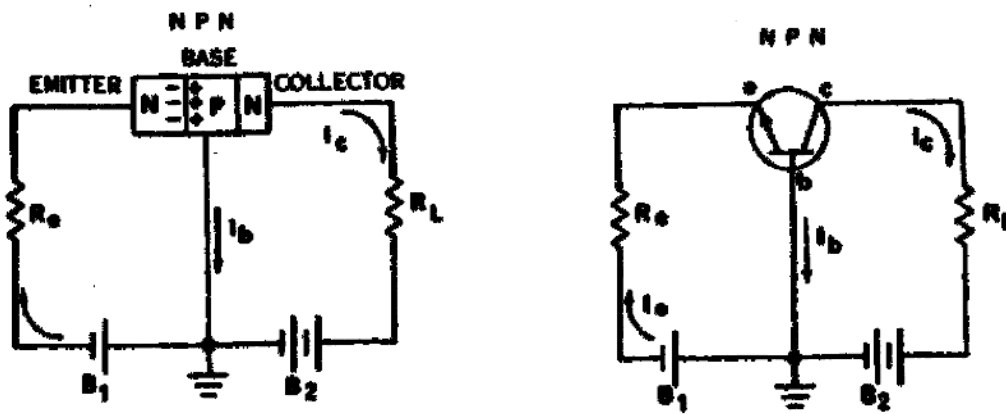

Figure 119. Common base circuit.
2. **Common Base Circuit.** Figure 119 shows a common base circuit using a triode transistor. A thin layer of P-type material is sandwiched between two pellets of N-type material. The layer of P-type material is the base when the two pellets of N-type material are the collector and the emitter. The emitter is connected to the base through a small battery ( $B_1$ ). This battery is connected with its negative electrode to the N-type emitter and its positive electrode to the P-type base. Thus, the emitter-base junction has forward bias on it. Recombination of the electrons and holes causes base
3. Battery  $B_2$  is connected to produce reverse bias on the collector-base junction. However, current will flow in the collector-base circuit. Let's see why this current will flow. In this emitter, electrons move toward the emitter-base junction due to the forward bias on that junction. Many of the electrons pass through the emitter-base junction into the base material. At this point the electrons are under the influence of the strong field produced by  $B_2$ . Since the base material is very thin, the electrons are accelerated into the collector. This results in collector current ( $I_c$ ), as shown in figure 119. About 95 percent of the electrons passing through the emitter-base junction enter the collector circuit. Thus, the base current ( $I_b$ ), which is a result of recombination of electrons and holes, is only 5 percent of the emitter current.